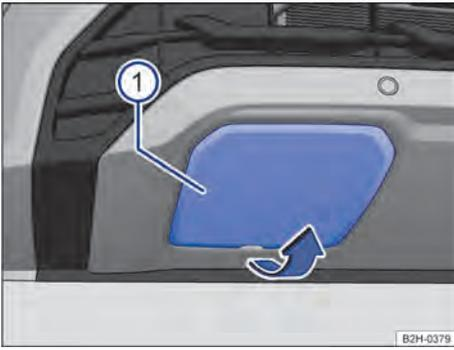

Fig. 177 On the front bumper on the right: cover, variant 1.
① Cover.
1. Hold the recess in the cover and remove the cover in the direction of arrow → Fig. 177 ①.